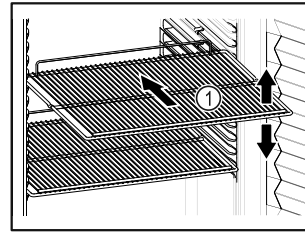

Fig. 86 Example illustration
- If there are adjustable shelves Fig. 86 (1), position them as required.